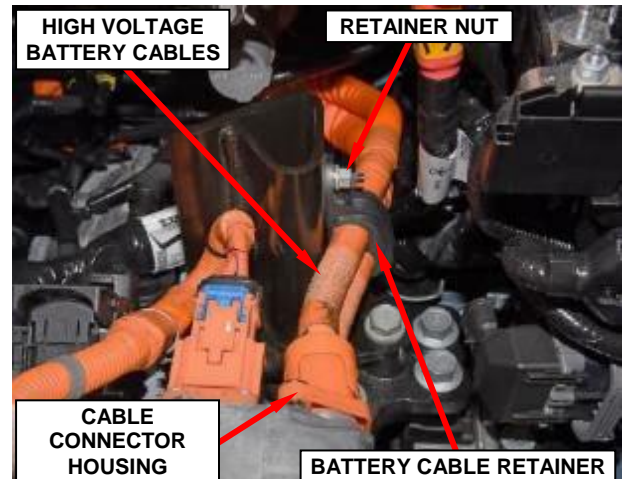

Figure 23 – Battery Cables Retainer
- 45. Remove and save the nut securing the high-voltage battery cable retainer (Figure 23).
- 46. Disengage the high voltage battery cable connector housing from the PIM, (Figure 23).